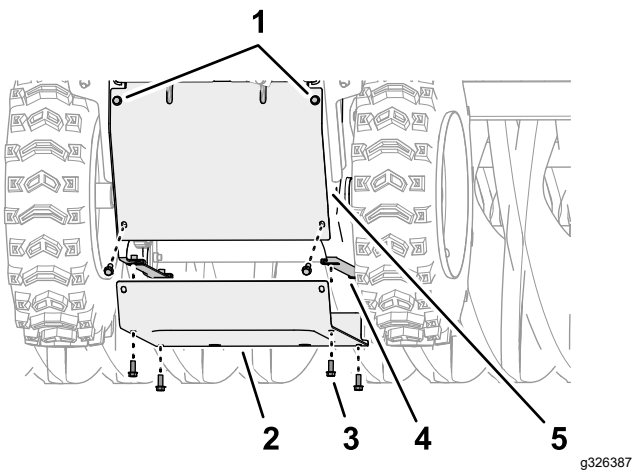

Figure 47
5. At the back of the machine, loosen the 2 top flange-head capscrew (1/4 x 5/8 inch) that secure the rear cover to the machine (Figure 47).
6. Remove the 6 flange-head capscrew (1/4 x 5/8 inch) that secure the bottom cover to the machine, and remove the cover (Figure 47).